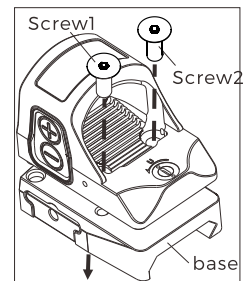

Fig 5-1
1. Remove the two screws shown in the figure 5-1 and remove the rail mount from the HE407C-GR.